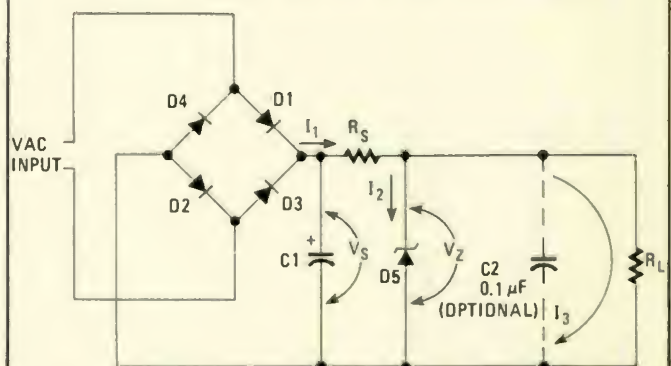

FIG. 13—ZENER-REGULATED DC power supply provides constant voltage to R_L . Capacitor C1 provides basic filtering keeping V_S always higher than V_Z .
Figure 13 shows a Zener-regulated DC power supply. Resistor R_L represents the load applied to the power supply (i.e. $V_Z \div I_3$). Capacitor C1 is the regular filter capacitor used in any DC power supply. A good rule of thumb is to make C1 not less than 1000- μ F per ampere of load current, or 500 μ F (whichever is larger).
Capacitor C2 in Fig. 13 is used to suppress avalanche *hash* noise produced by the Zener diode. In many circuits that noise is negligible, so C2 may be deleted.
Designing a Zener-diode regulator circuit as seen in Fig. 13 is a four-step process: (1) Determine the operating condition (explained below); (2) select the Zener potential; (3) select
Design a Zener diode voltage regulator such as Fig. 13 to provide a 6.8 VDC to a circuit that draws 75 milliamperes. The power source is an automobile battery, which normally varies 12 to 15 VDC as the engine speed changes from an idle to high RPM.